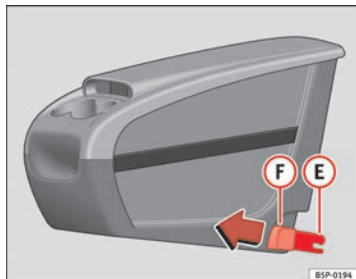
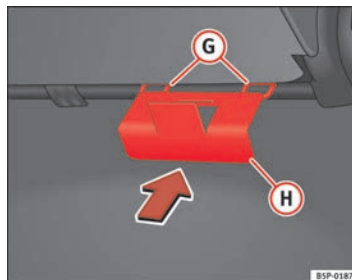

Fig. 112 Mobile stowage compartment installation
Fig. 113 Mobile stowage compartment mounting plate
- Fit the mobile stowage compartment mounting plate ⑧ ⇒ fig. 113 from the inside of the vehicle, through the rear section of the seat. It should be fitted between the back rest and the seat, in the central seat area.
- Set both mounting pieces together **(E)** ⇒ page 145, fig. 112, with both mounting rings **(G)** ⇒ page 145, fig. 113 and press hard until both the clips completely connect with the rings.
- Pull each of the buttons ⇒ page 145, fig. 112 **(F)** on the clips (red buttons) forwards, until they snap out of place.